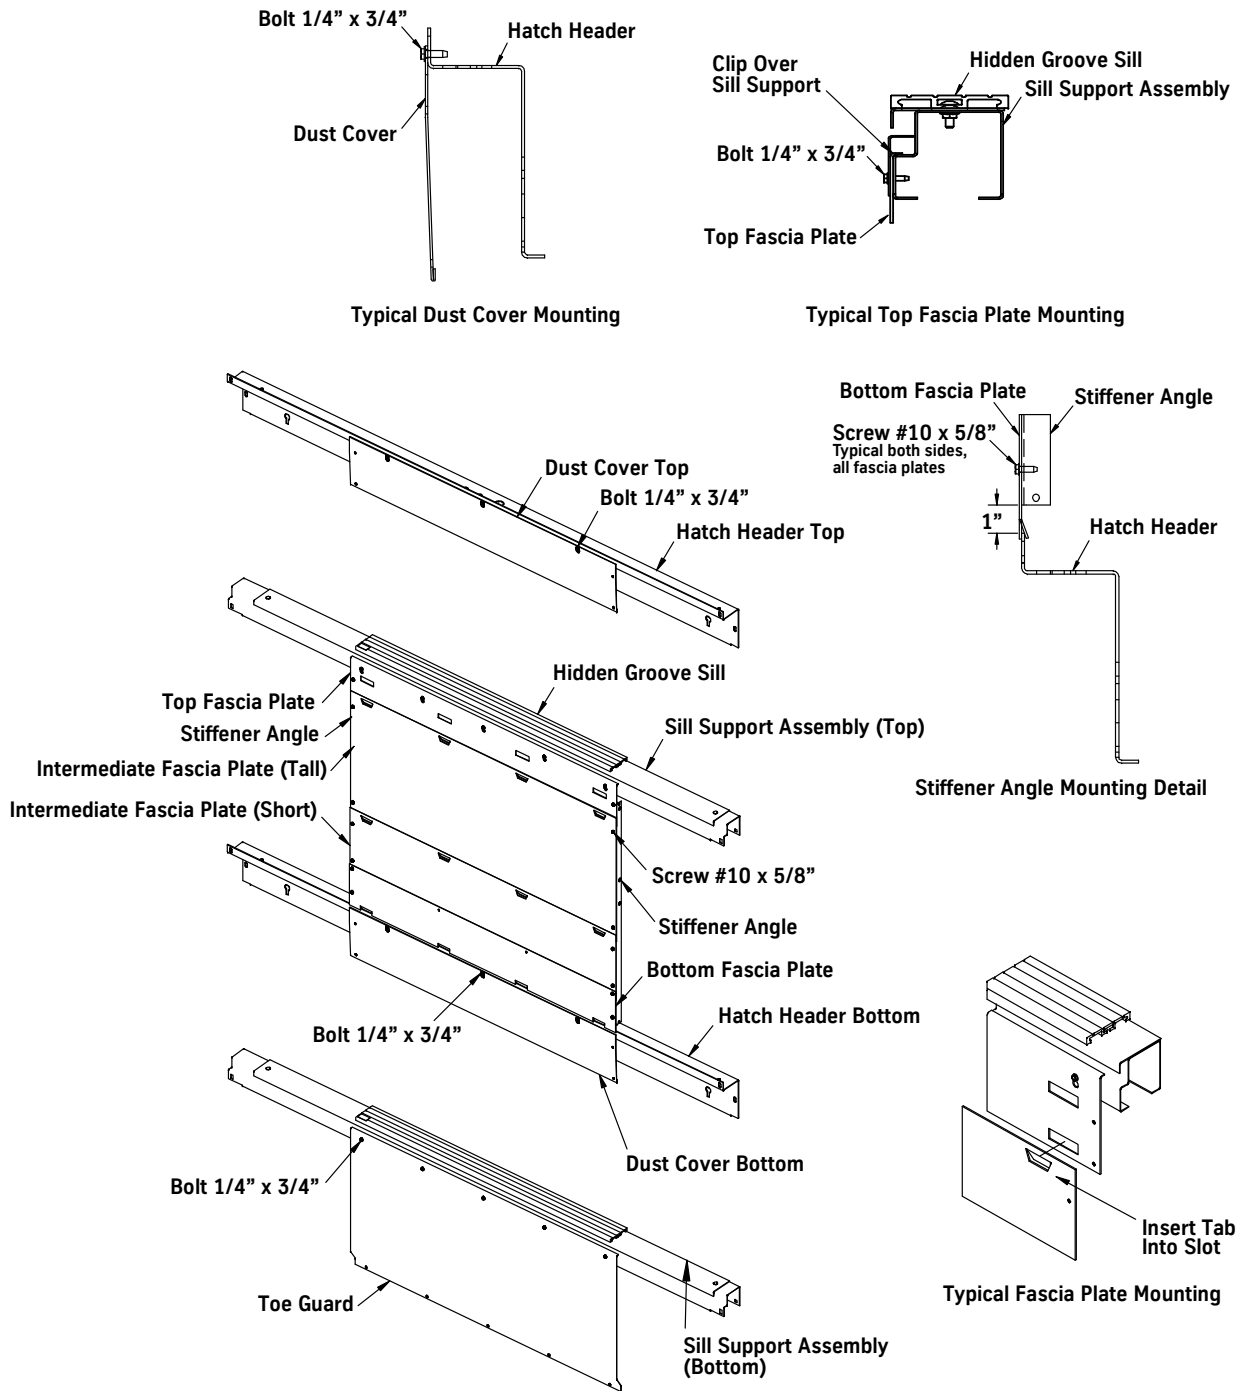

Figure 45 - Dust Cover and Fascia Installation
1. Install the top fascia plate. See Figure 45 on page 49.